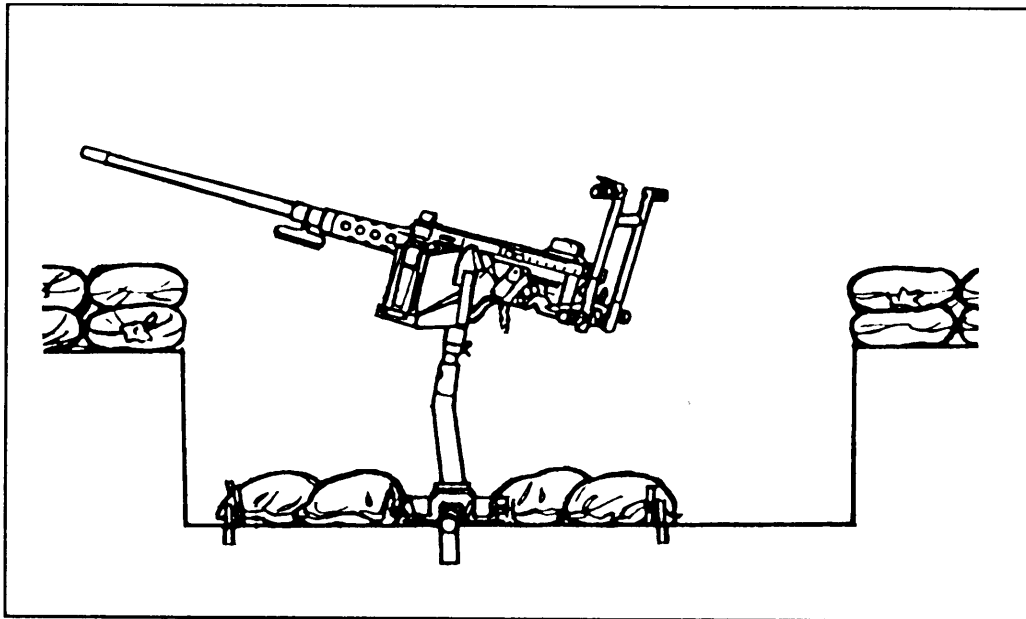

Figure 1-7. Antiaircraft mount, M63.
- (1) To set the tripod trail legs--
- (2) *To set the front leg of the tripod-*
- (3) To secure the tripod legs, stamp the metal shoe on each tripod leg into the ground. Sandbag each leg to stabilize the M2 for firing.
- b. **Antiaircraft Mount, M63.** The antiaircraft mount (Figure 1-7) is a four-legged, low silhouette, portable mount used for antiaircraft fire. Table 1-3 lists the general data pertaining to the M63.